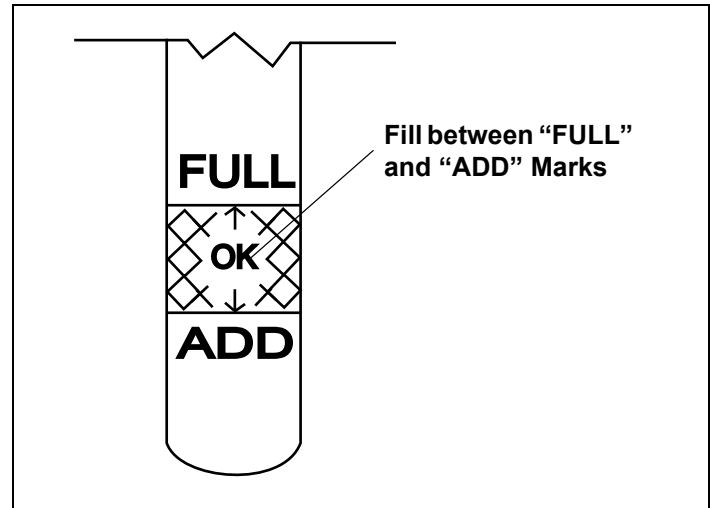

Figure 7. Engine Oil Level
- Keep oil level between "FULL" and "ADD" marks on dipstick. See Figure 7.
4. Unscrew and remove oil fill cap from oil filler tube. Note oil level. If oil reading on dipstick is below "ADD" mark, slowly add oil to reach "FULL" level. See Figure 7.